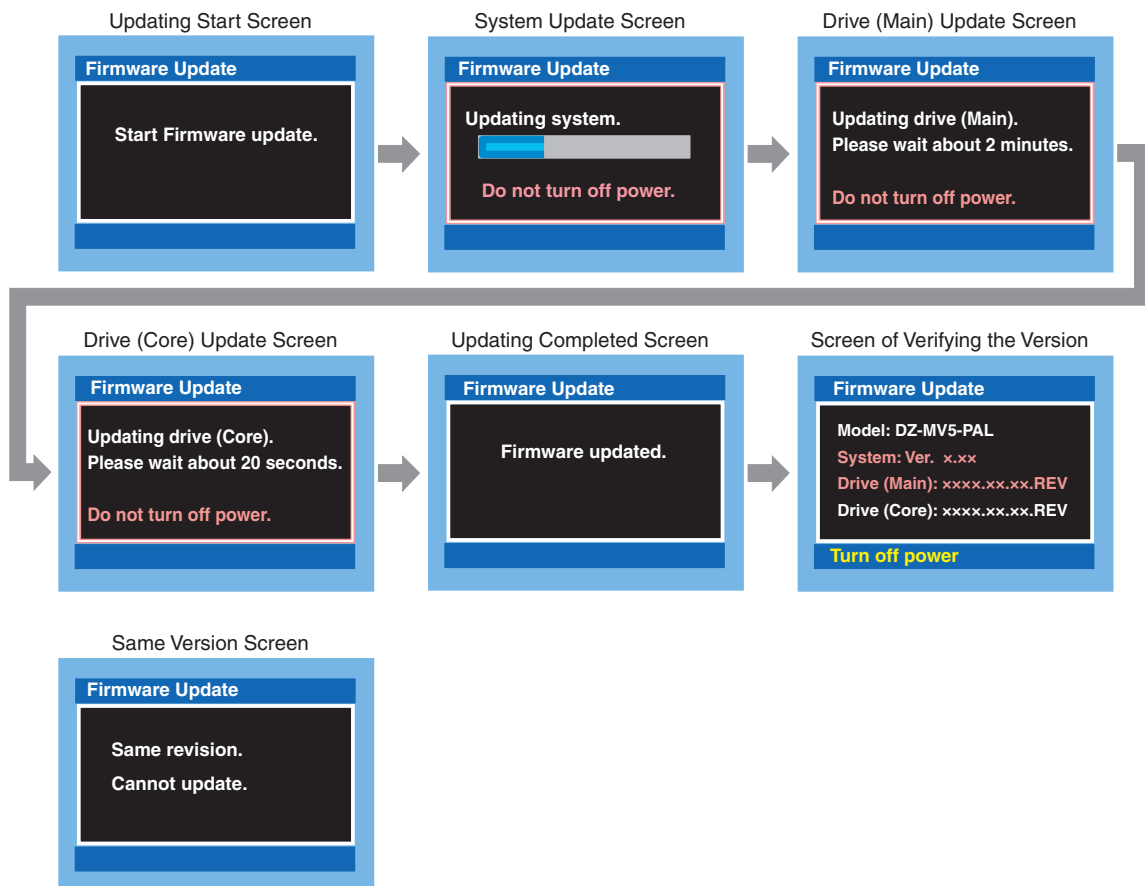

Fig. 4-6-2
- 5) After approx. 20 seconds, the updating start screen (Fig. 4-6-2) will appear, and the firmware programs will be automatically updated thereafter. During updating, the screens showing that designated firmware program is being updated will appear, followed by the screen showing that updating is complete.